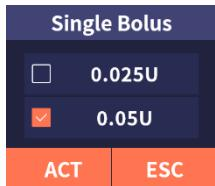

Figure 4.9
(1) Click "Single Bolus" to open the setting interface (as shown in Figure 4.9). Select the appropriate value. Click "ACT" to save and exit, or click "ESC" to exit without saving.